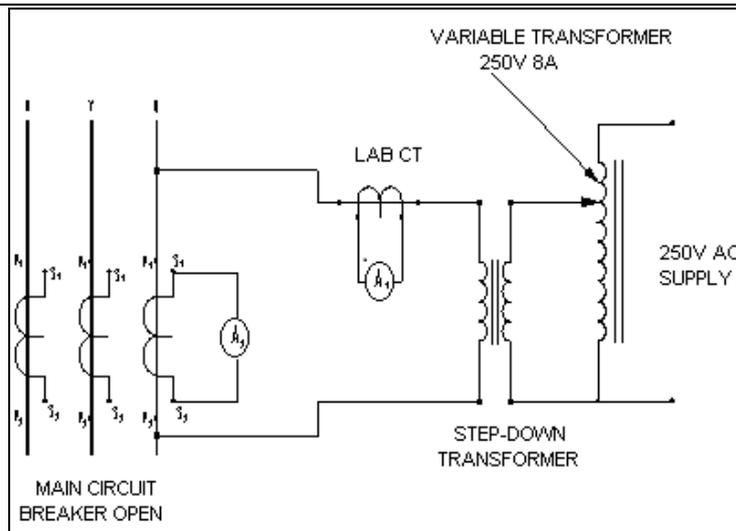

Figure 4.6: Test Circuit for Current Transformer Ratio test
- Connect the test equipment to the CT under test as shown in Figure 4.6 selecting a suitable Lab CT ratio
- Check that the ratio of the values, A1: A2 corresponds to the ratio on the current transformer (CT) nameplate.